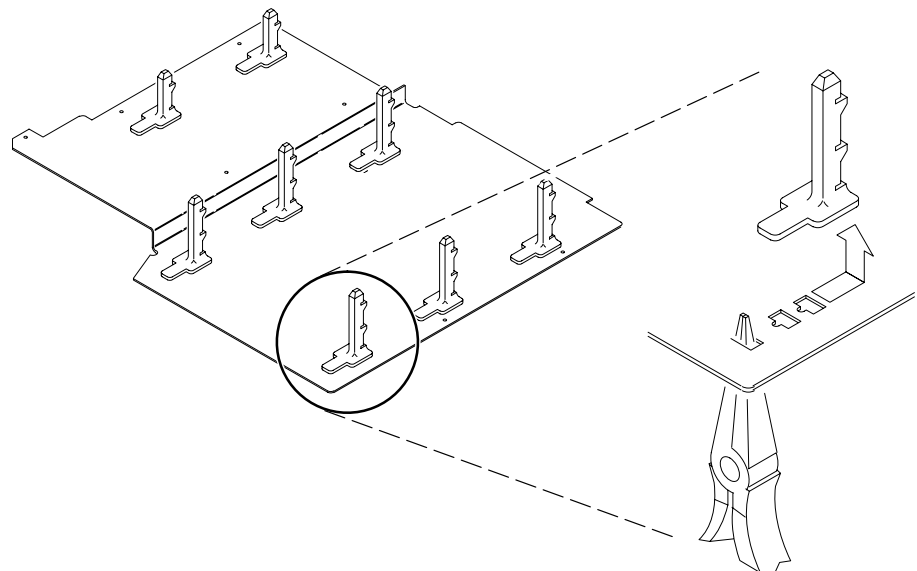

Figure 6–17: Board Bracket Removal
- b. Locate the modules to be removed in the locator diagram *Outer-Chassis Modules*, Figure 6–2, page 6–13.
4. *Remove the board mount(s):* From the top side of the top cover, use the flat-bladed screwdriver to pry up the retainer lug until it clears the slot in the front cover. While holding the lug clear of the slot, push the mount towards the rear until it releases. See Figure 6–17. (When reinstalling, be sure to align the lug properly and be sure it snaps into its slot.)